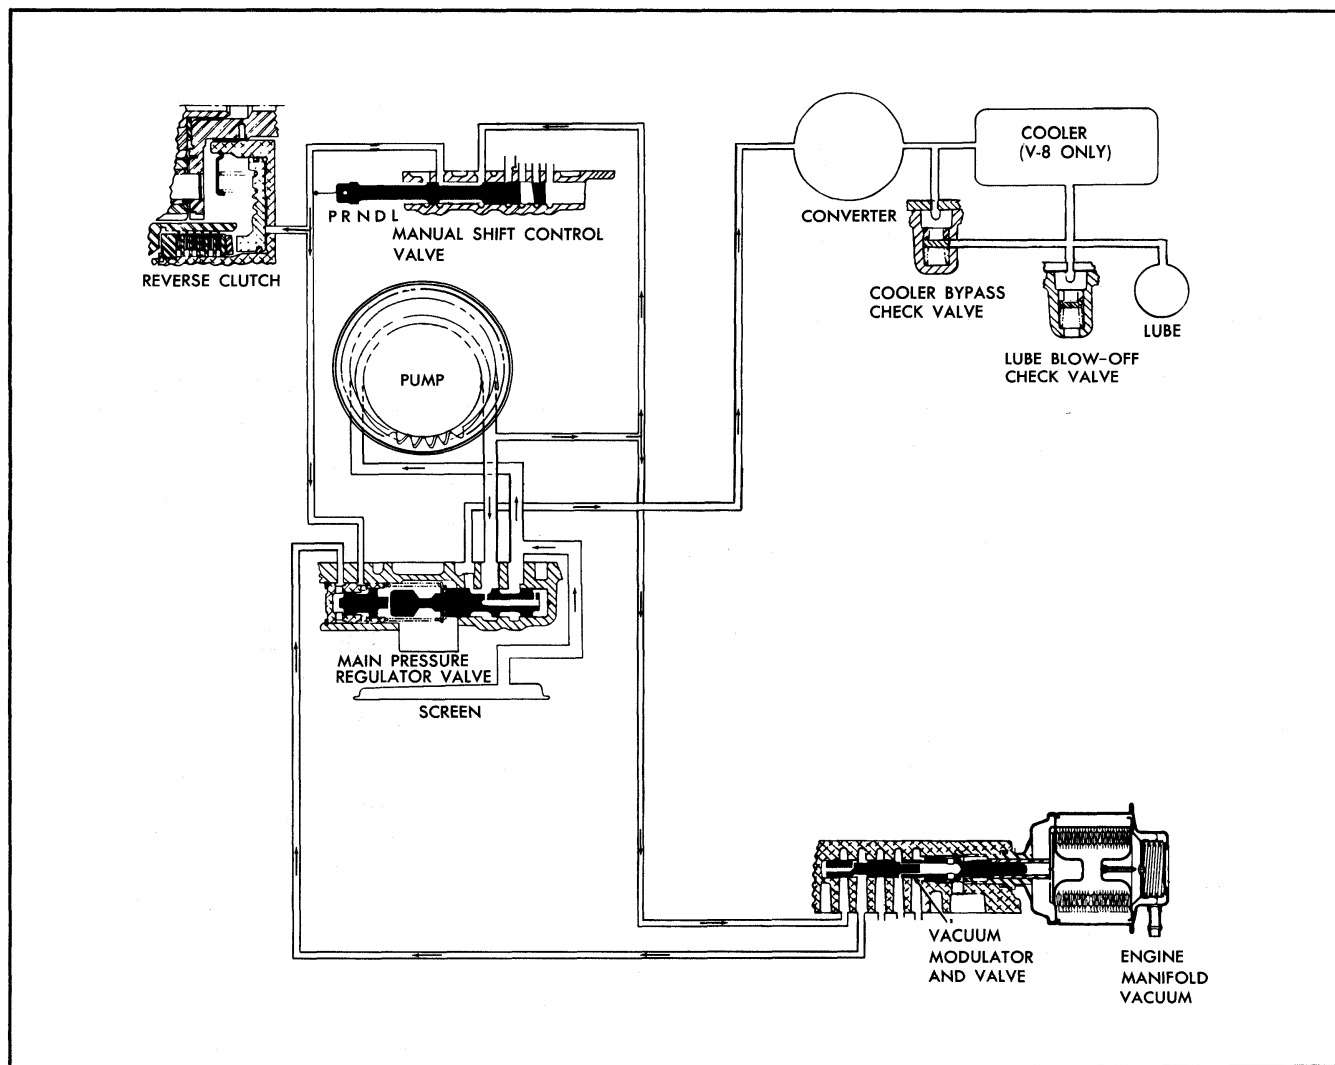

Fig. 7B-25 Oil Circuits - Reverse
In Reverse (R) range the manual shift control valve is positioned as shown in Fig. 7B-25. With the manual shift control valve in this position, mainline pressure is directed to the reverse circuit to apply the reverse clutch and to boost mainline pressure